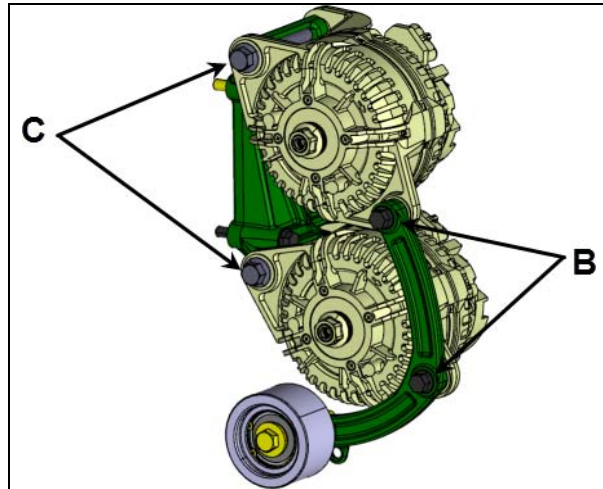

FIGURE 4
7. Install new alternators. Fix lower and upper alternators loosely to alternator supports using bolts **C**. Also, mount arched support loosely onto alternators using bolts **B**. If applicable, install stone guard. Use Loctite 243 blue on threads (figure 4).
8. In order to assure proper installation, it is important to tighten the alternator mounting bolts in proper sequence. Use Loctite 243 blue on threads (figure 4).